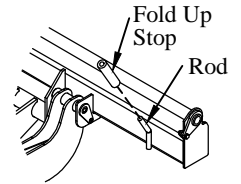

Figure 5: Platform stop location.
6. **Install** the fold up stop on the rod on the main assembly (Figure 5).